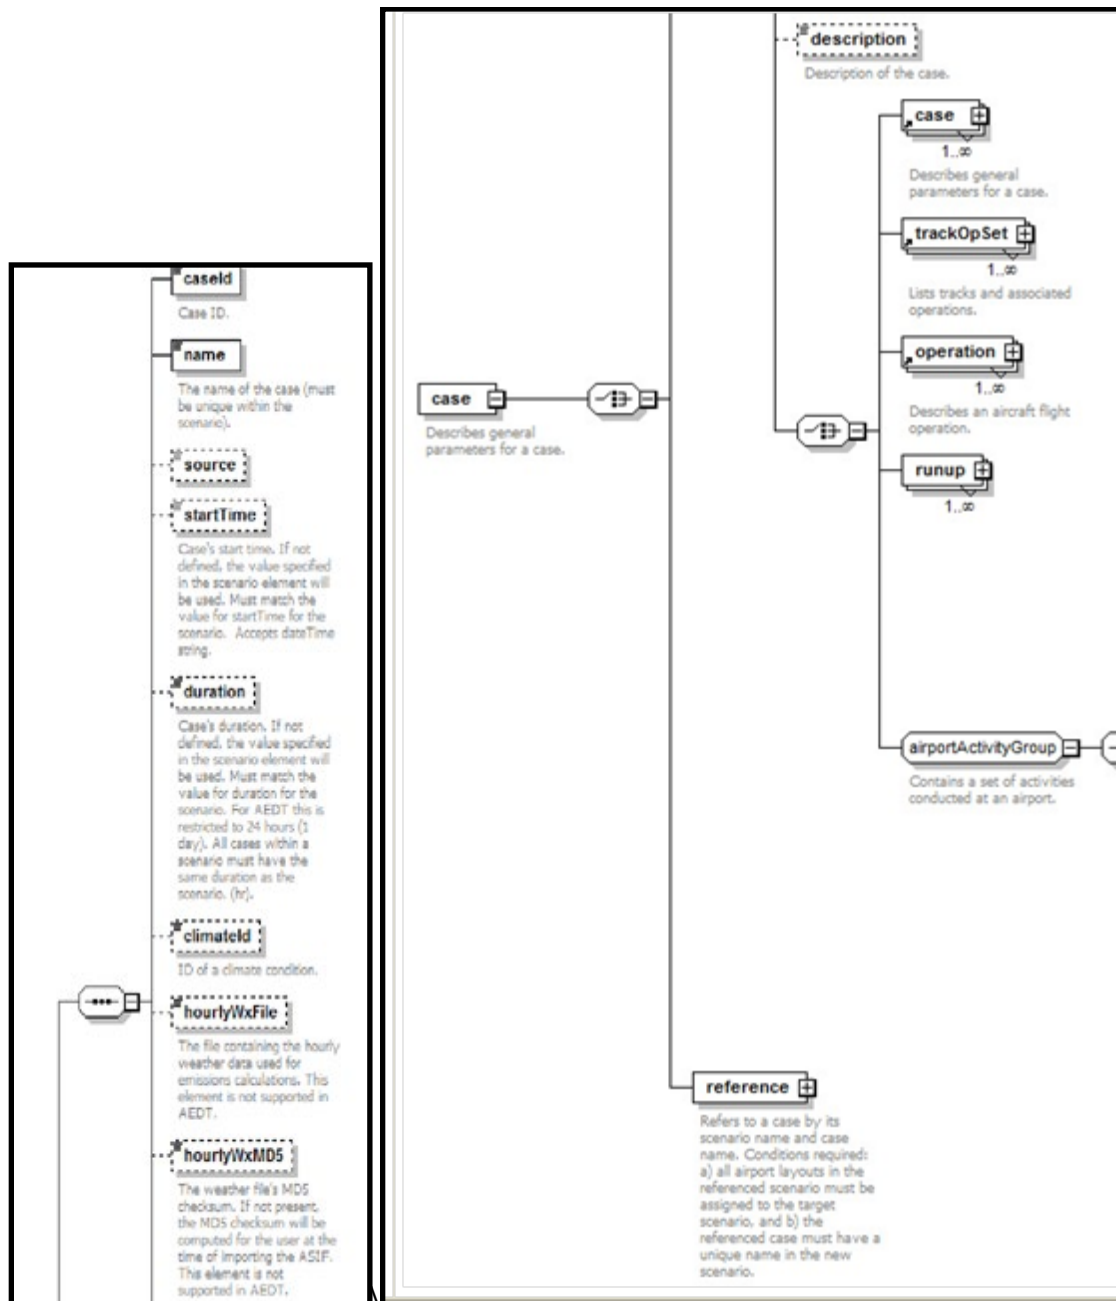

Figure 71. ASIF element – case
13. **AsifXml/study/scenario/case** (Figure 71):